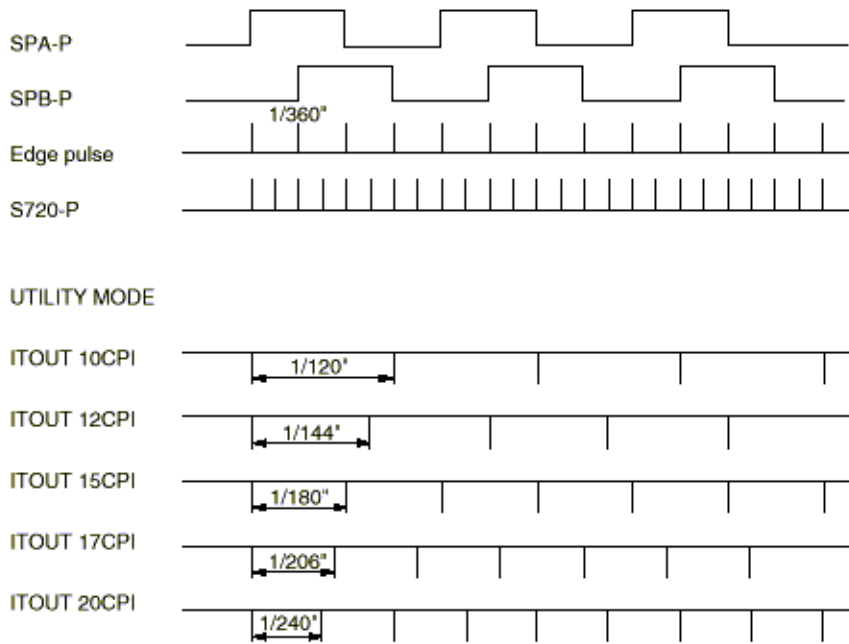

Figure 2.14
(2) Motion of Printhead (Figure. 2-14)